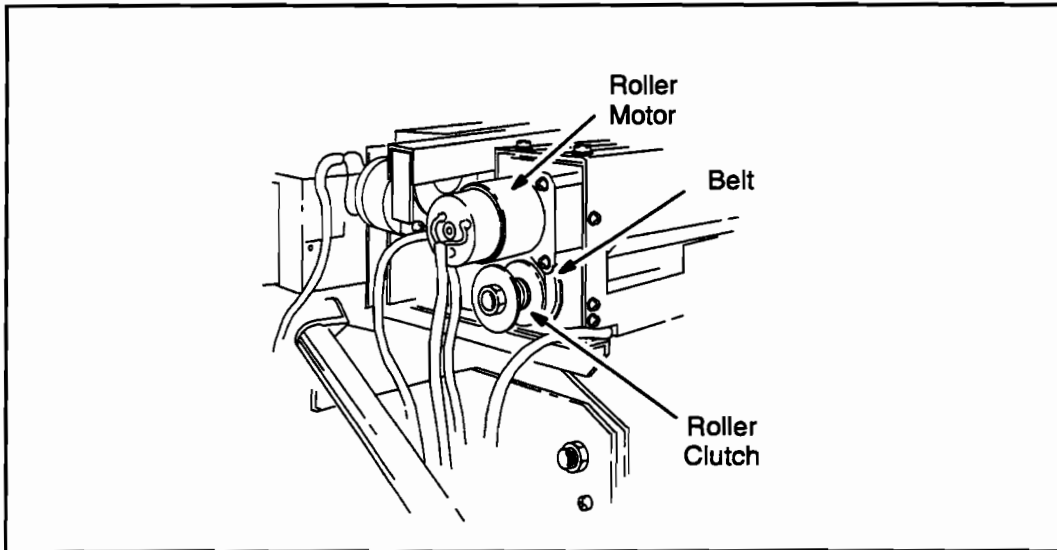

Figure 6-81. Roller Motor and Clutch
6. Disengage the drive belt from the gear on the motor assembly. See Figure 6-81.